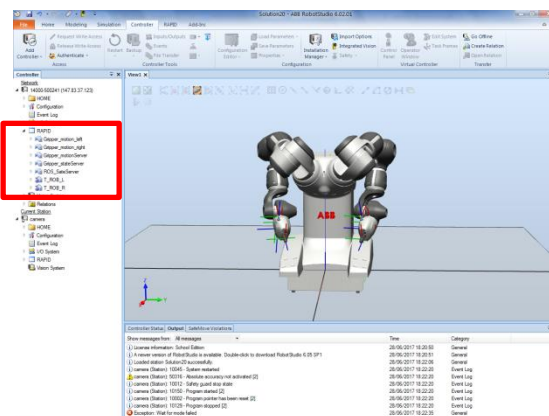

Fig. 6 ROS tasks
- 6.1 If you have established ROS connection inside the RAPID window it will appear all the tasks that were made in the *Ros_control/Ros_industrial_motion* guide. As it shows in figure 6.